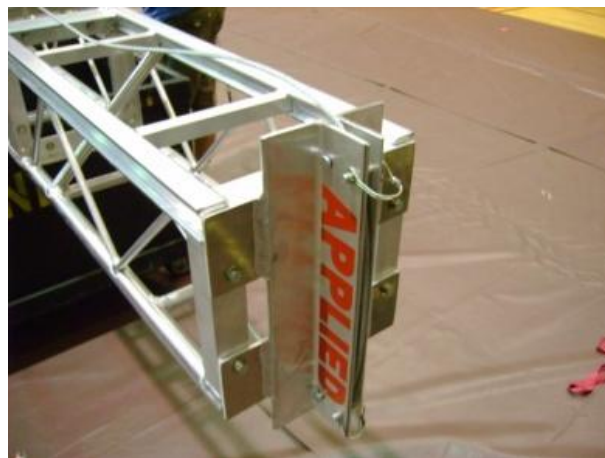

Figure 13: The headblock attached to the top of the tower truss
- Also, we must attach the headblock to the top of the tower truss. Make sure the pulley is attached in the correct direction; if you followed the previous steps correctly, the pulley should be attached with one end touching the ground, and the other straight up, as seen in Figure 13.